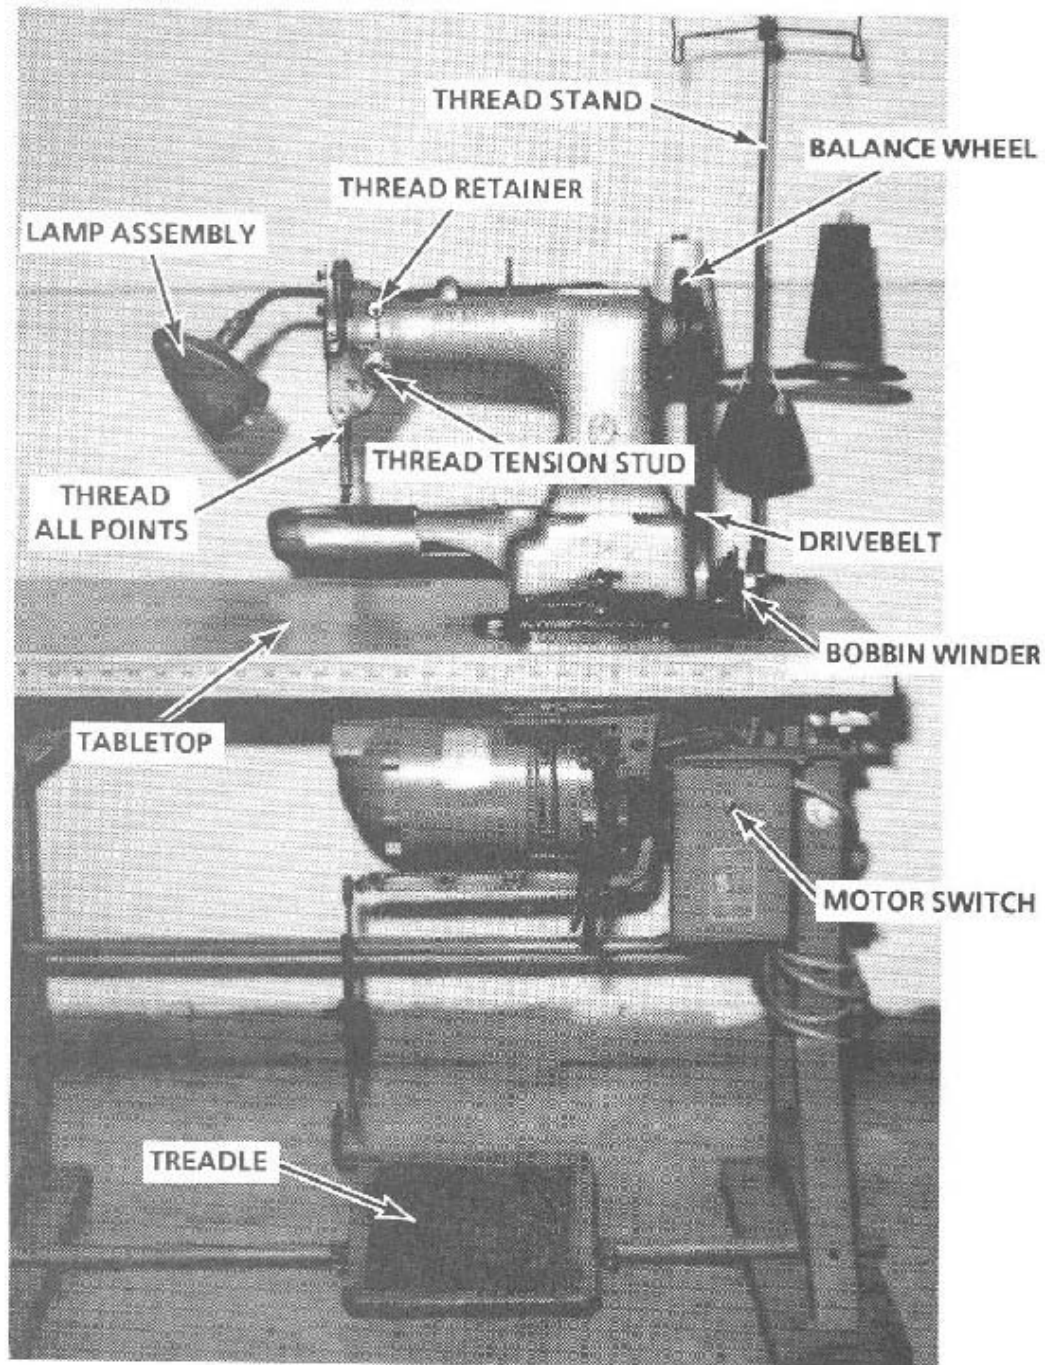

Figure 3-94
1. Perform before-operation maintenance using the preventive maintenance daily checklist that follows. (Figure 3-94 lists darning machine components.)
- (1) Inspect for cut, cracked, broken, warped, or dirty tabletop.
- (2) Inspect for loose or missing bolts and nuts and for loose mounting to the folding stand.
- (3) Inspect to make certain it is level.
- (4) Inspect for bent or broken components.
- (5) Inspect for loose or missing bolts and nuts on components.
- (6) Inspect for loose mounting.
- b. Inspect the machine head. (See Figure 3-94)